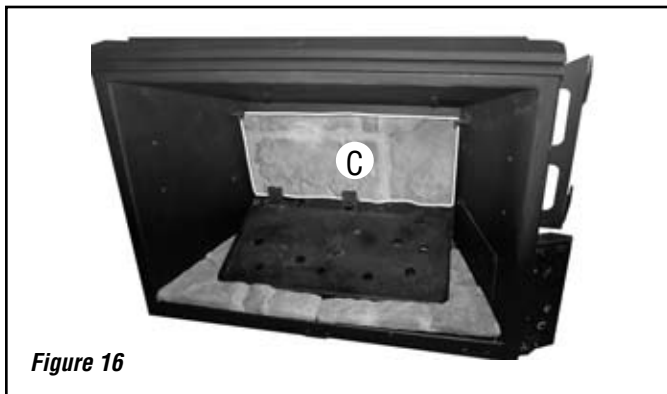

Figure 16
2. Next place the rear panel (C). It will set on the bracket mounted to the blower mounting plate on the back of the firebox. See *Figure 16*.